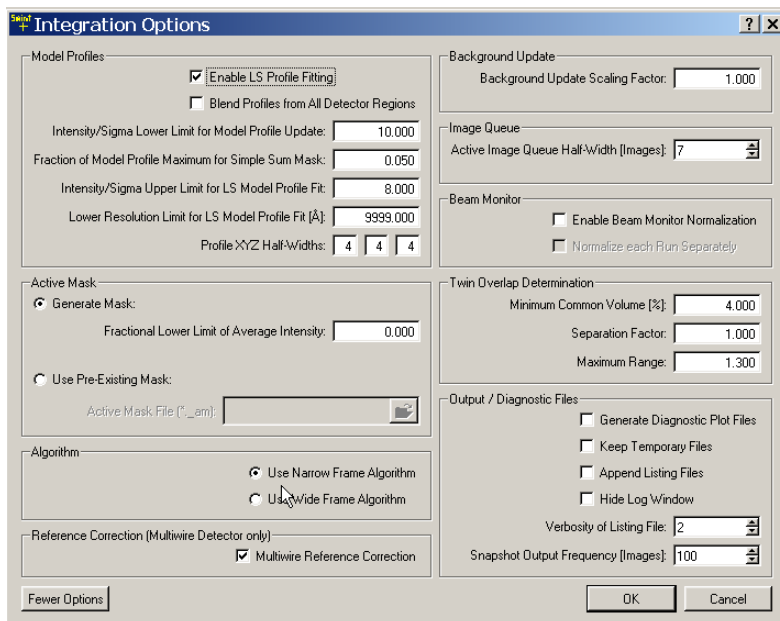
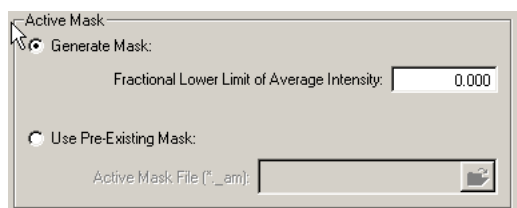
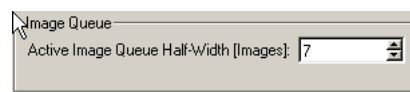

Figure 7.12 - The Integration Options window with "More Options" selected
Figure 7.13 - The Active Mask tool
Figure 7.15 - The Image Queue tool
4. Click on More Options. This results in an expanded window (see Figure 7.12) and gives access to several other useful features, in particular Active Mask (see Figure 7.13), Algorithm (see Figure 7.14), and Image Queue (see Figure 7.15).